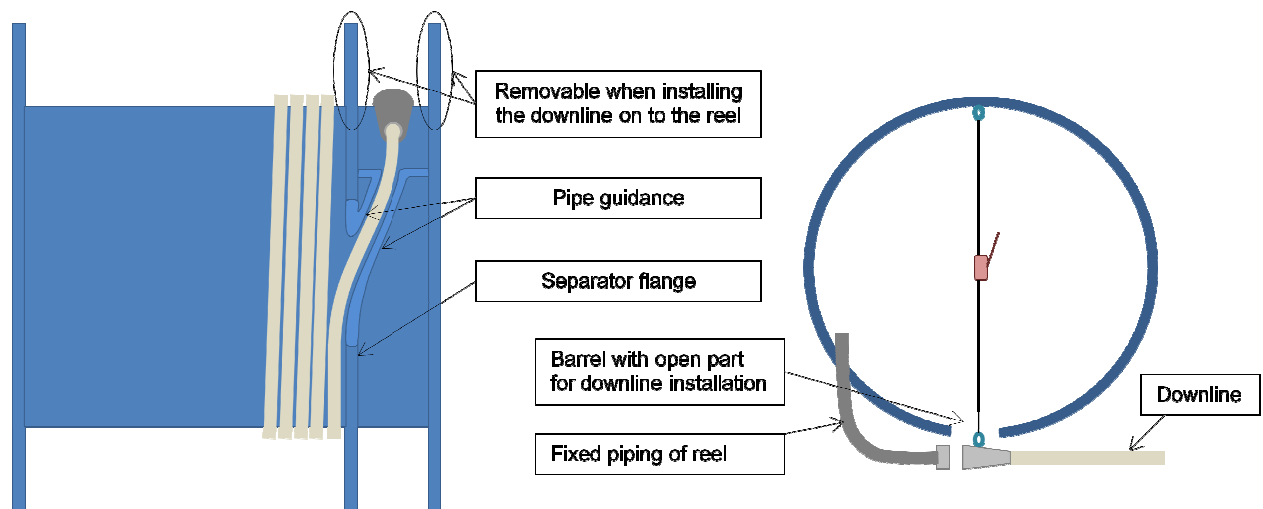

Figure 2: Schematic of barrel with separator flange. Note that the pipe end fitting requires sufficient access for connecting.
10. The barrel shall be equipped with a separator flange (see Figure 2), taking into account:
- c) At the connection of the downline, part of the flanges and bed plating shall be removable (see Figure 2). This shall leave sufficient space to manoeuvre and align the mating flanges and tighten the studbolts with a hydraulic torque wrench.